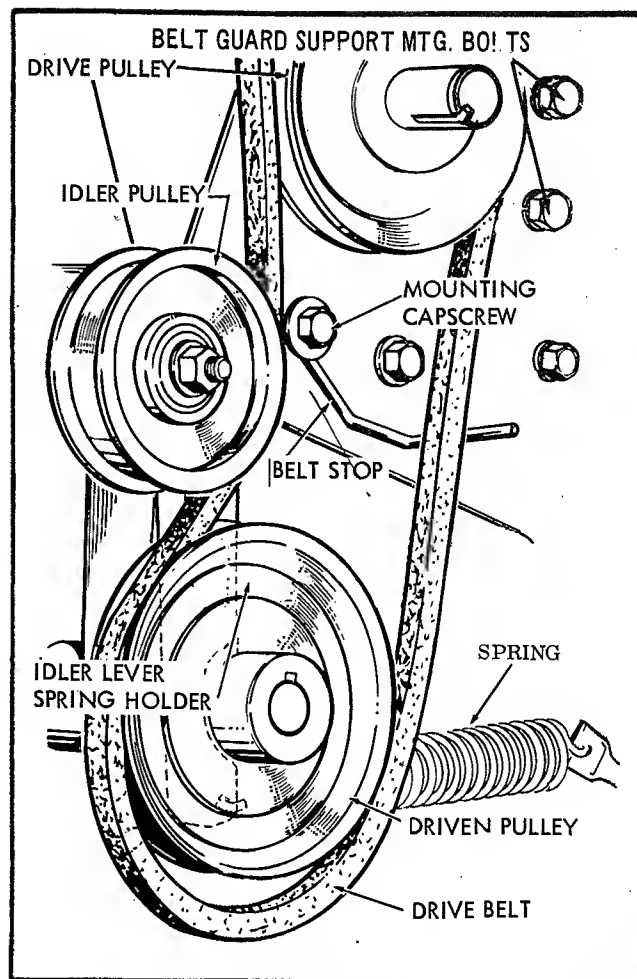

Fig. 5
5. Remove front hex cap screw from Pull Bar. Replace with stud 157273 provided. Short end inserted. Slip on Handle Assembly & tighten with hex head lock nut to permit free movement of handle. Mount "V" belt in place on driven pulley as shown in figure 5 and attach spring to hole provided in the bottom of the Bracket Assembly. Hook other end of the spring to the Handle Assembly. Mount belt stop as shown with 3/8" bolt, flat washer, lockwasher and hex nut. When Implement is attached
to tractor with idler pulley engaged, 1/8" clearance between belt stop and back of "V" belt is required. Note: "V" belt runs under idler pulley. See Figure 5.